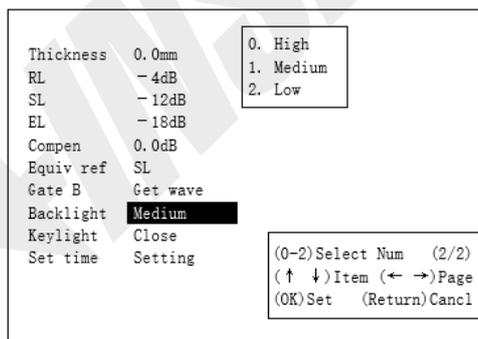

Figure2-22
2.2.7.19 Screen Brightness Selection: Press , the brightness is reflected in the brightness, as shown in Figure 2-22.